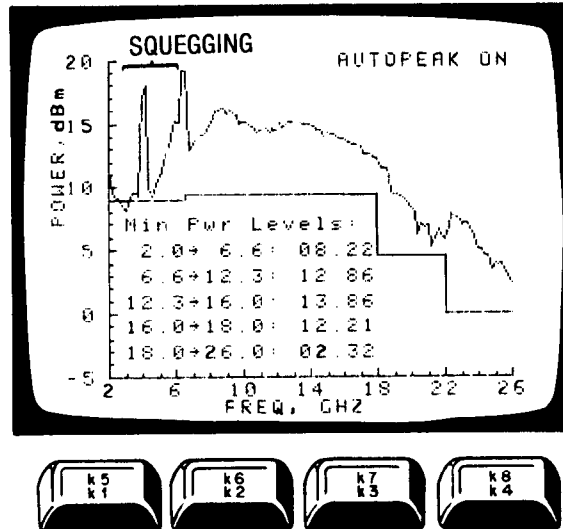

Figure 8-32. Squegging
**Squegging.** Squegging is an unstable YTM output caused by too much power being applied to the YTF input (within the YTM). See figure 8-32 for an example of squegging. This condition can occur in Band 1 because the RF signal itself (rather than some harmonic of the RF signal) is applied to the YTF. To prevent squegging in Band 1, the RF signal is clamped to a safe power level before it is applied to the YTF. Therefore, if squegging occurs, first try to readjust the clamp circuit.